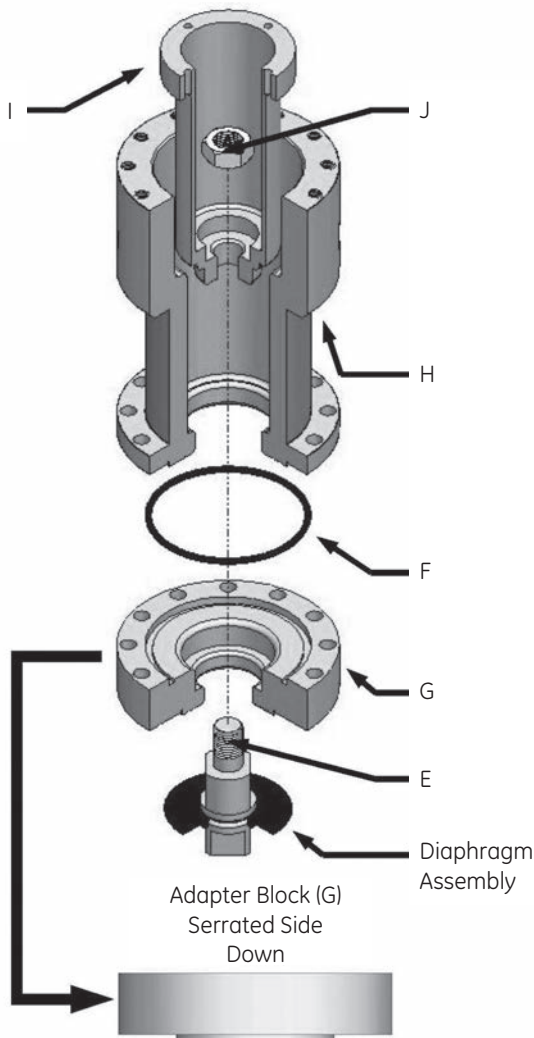

Figure 33 - 1000/1500-CH Adapter Block Assembly
- Step 1:** Insert the 145 O-ring (F) into the adapter block (G).
- Step 2:** Place the adaptor block (G) between the diaphragm assembly and spring chamber (H) as shown in Figure 33.
- Step 3:** Slide the inner tube (I) through the spring chamber (H).
- Step 4:** Attach the thread extension (E) to the inner tube (I) using 1/2 inch - 20 inch SS jam nut (J).
- Step 5:** Torque the jam nut (J) to 180 to 220 in-lbs.